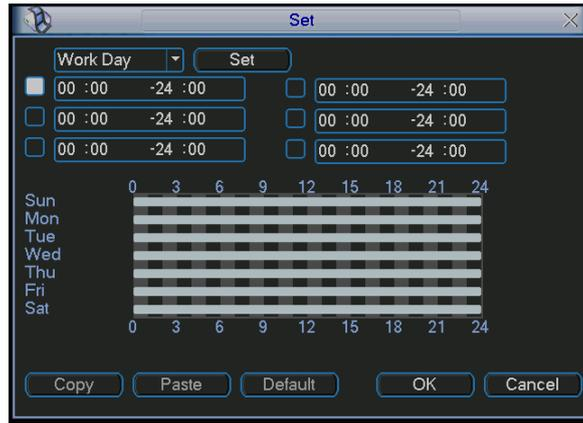
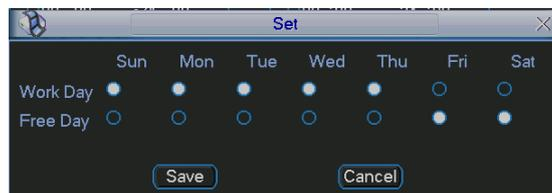

Figure 4-19
Figure 4-20
- Period: Click set button, you can see an interface is shown as in Figure 4-19. Here you can set for business day and non-business day. In Figure 4-19, click set button, you can see an interface is shown as in Figure 4-20. Here you can set your own setup for business day and non-business day.